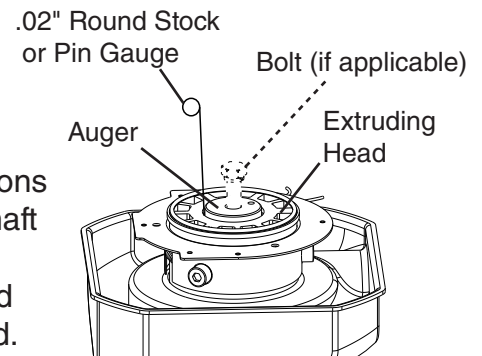

Fig. 8
- 5) Replace the bolt in the auger (if applicable). See Fig. 8.